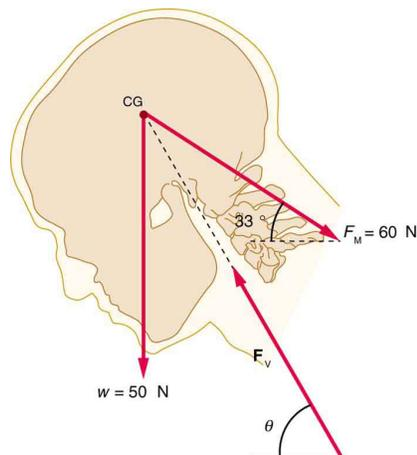

Figure 9.40
49. A person working at a drafting board may hold her head as shown in **Figure 9.40**, requiring muscle action to support the head. The three major acting forces are shown. Calculate the direction and magnitude of the force supplied by the upper vertebrae F_V to hold the head stationary, assuming that this force acts along a line through the center of mass as do the weight and muscle force.